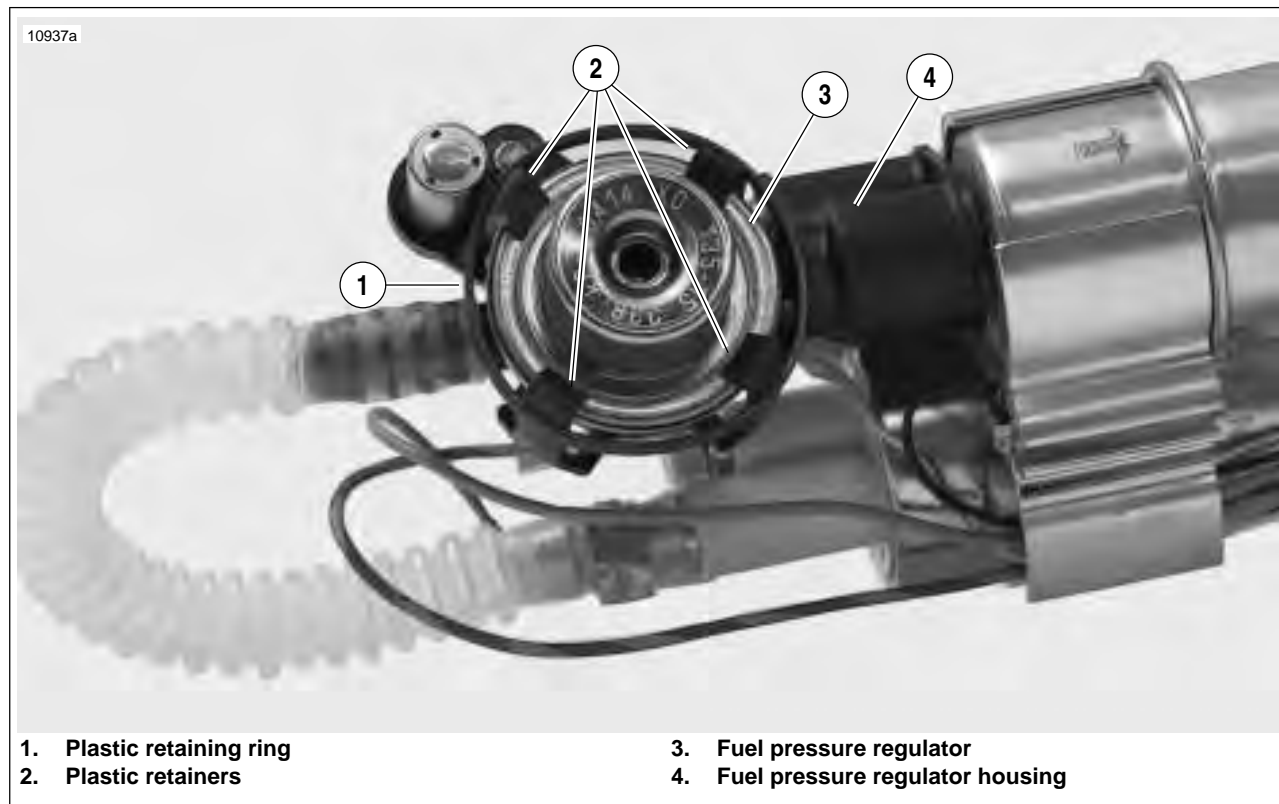

Figure 4-97. Fuel Pressure Regulator
2. See Figure 4-97. Remove the plastic retaining ring (1) securing the four plastic retainers (2) holding the fuel pressure regulator (3) in place. Spread the four clips and detach regulator (3) from regulator housing(4).
5. Install plastic retaining ring (1).